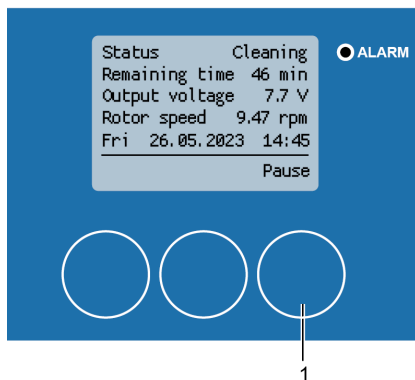

Fig. 165: Pause cleaning process
1. Press [Pause] (Fig. 165/1) to pause the cleaning process.